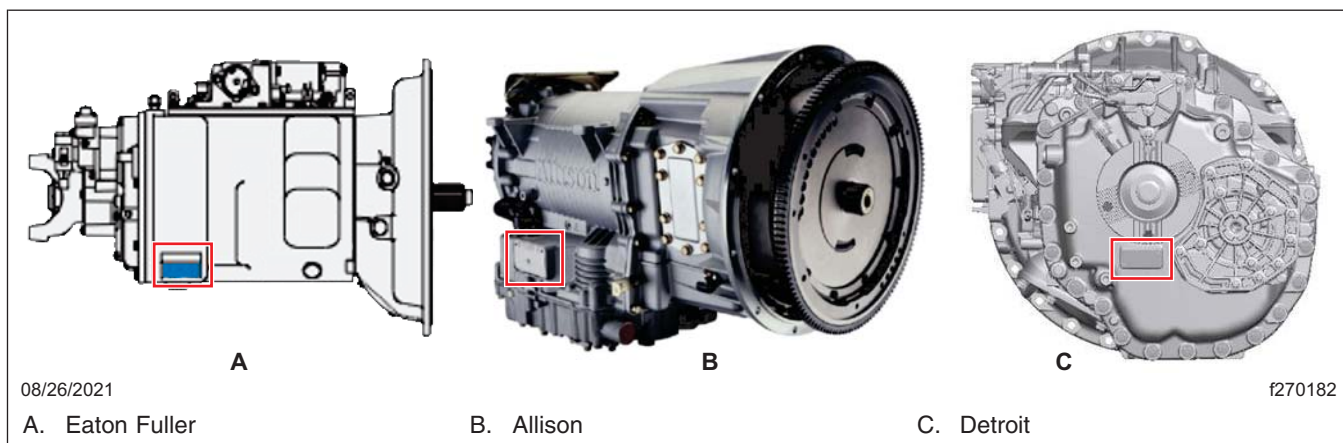

Fig. 5.1, Locating Transmission Identification Information
1. Determine which transmission make and model is installed on the vehicle. Transmission ID information is printed on a plate, usually located on the lower-right side of the transmission (Allison and Eaton Fuller) or on the rear case (Detroit). See Fig. 5.1.